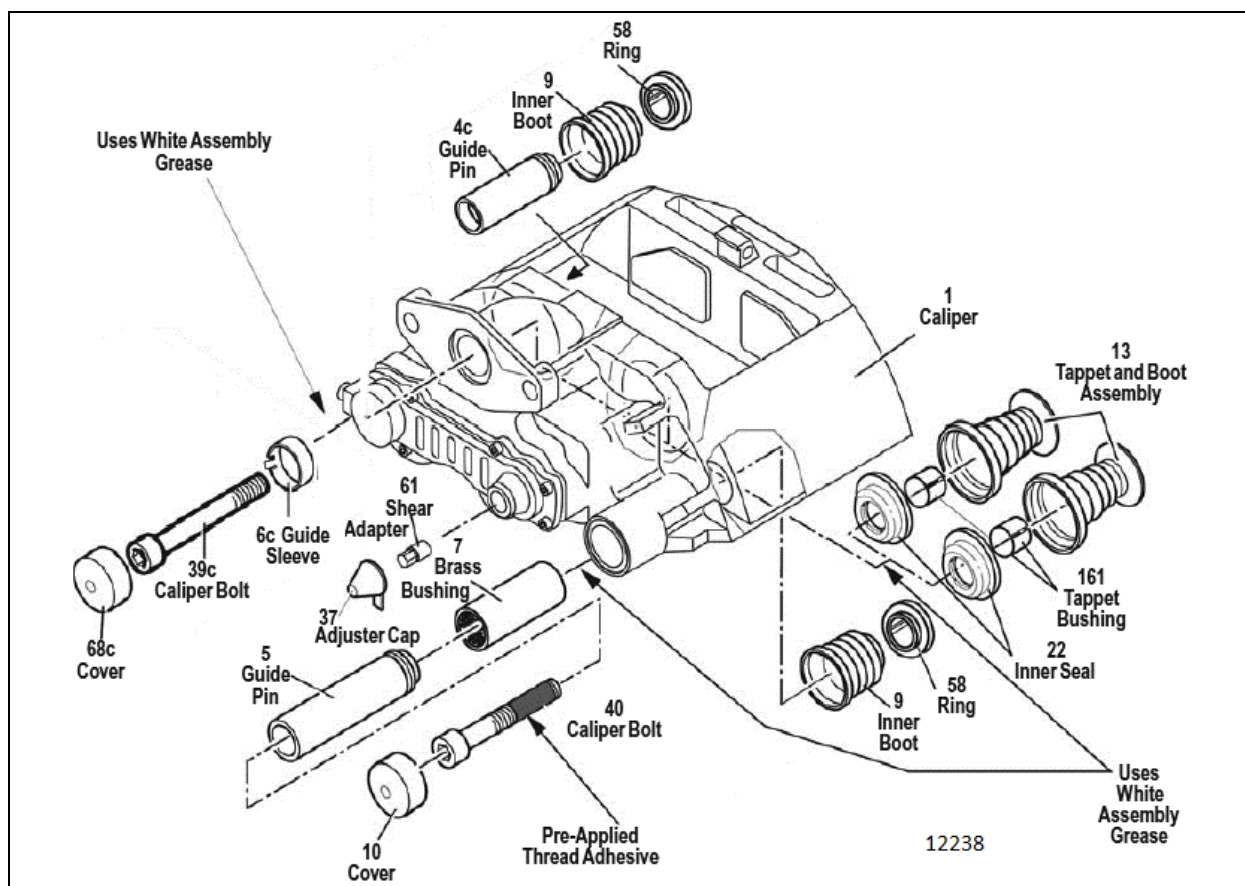

FIGURE 17: BRAKE COMPONENTS
At each pad replacement, make sure the caliper operates smoothly over its full range of movement. If the caliper shows the following signs, replacement of the guide sleeve (6c, Figure 17), guide pin, screw (39) and cap is required.
Additionally, inspect the tappet and boot assemblies (13, Figure 17), the adjuster cap (37) and the sealing elements (9, 58) for correct fitting and condition as well as the caliper bearing in the area of the rubber bush/guide sleeve (6) (see *Knorr-Bremse Pneumatic Disc Brake Y006471 Service Manual*). These frequencies are a minimum. Depending on the operating conditions of the vehicle, these inspections may need to be carried-out more frequently.